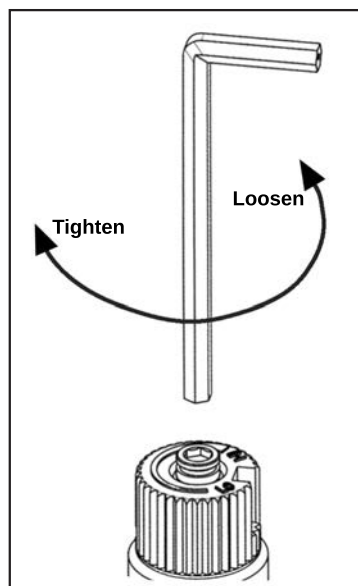

Figure 40: Removing valve screw.
- b) Insert a $\frac{5}{32}$ " or 4 mm Allen wrench into the hexagonal key-way of the screw (see Figure 40), rotate it counter-clockwise until it is free and extract it.
- e) Using the Allen wrench as shown in Figure 40, rotate the screw clockwise until a torque of 9 inch lbs. **WARNING!** Do not over tighten the screw. It is recommended that you grip the wrench by the short side.